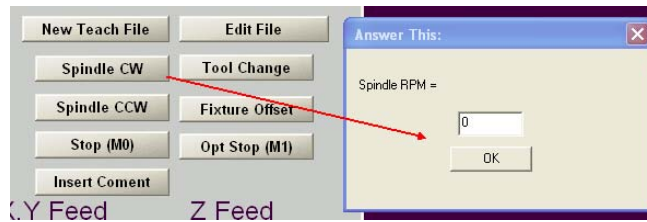

FIGURE 5.3
5.3 The following are brief descriptions for each of the buttons below the DRO's. Note that some of the buttons will open a pop up window for data entry as shown in figure 5.3 below.